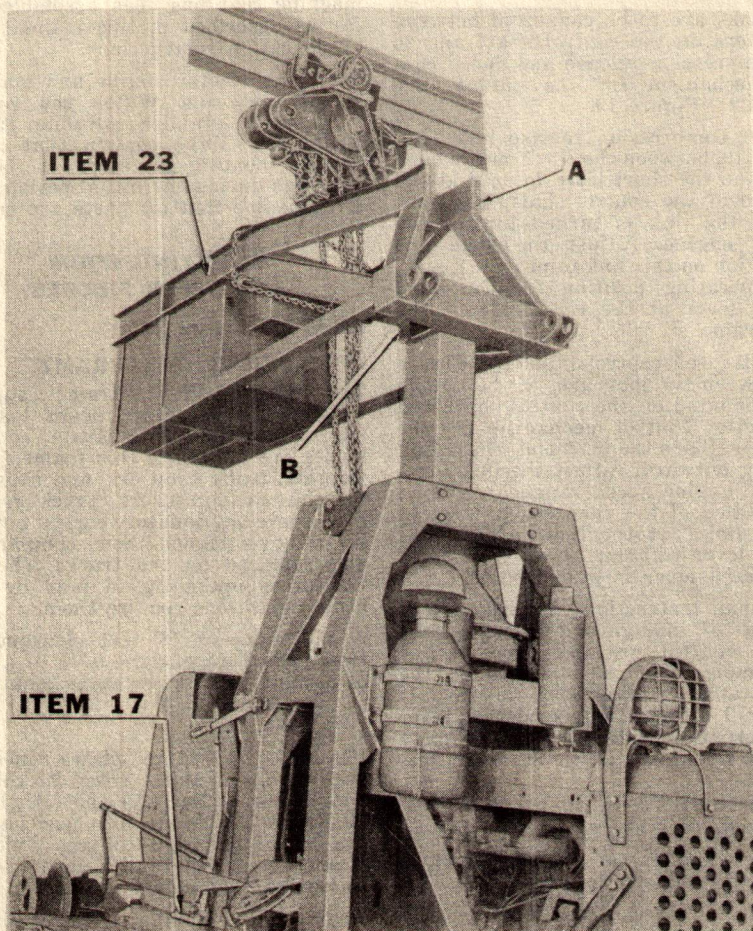

Figure 20 Placing Counterweight Frame
A third split bearing is attached to the shifter shaft. Use shims beneath this bearing to establish correct alignment and fasten the bearing to the right hoist brace. Place the bracket supporting the hand control lever on the right hand corner of the tractor main case. See (Item 17) Figure 20. Assemble on the front corner of the case with two capscrews.
REPLACEMENT OF**TRACTOR PARTS—Figure 20**
A mounting plate located on the right angle brace of the main frame provides a new location for the air cleaner. Refer to Figure 20.
MOUNTING BOOM AND UPPER FRAMES**ITEM 23 - Figure 20****COUNTERWEIGHT FRAME**
A minimum of 18 feet clearance between the floor and the hook of a crane of similar loading device is required to set the frame in place. Refer to (Item 23), Figure 20.
Remove two clamp plates, including hardware, and shims from the counterweight frame. See (A) and (B), Figure 20. Hoist the frame into position over the top of the mast column. Guide the frame down the column until it comes to rest on the column shoulder.